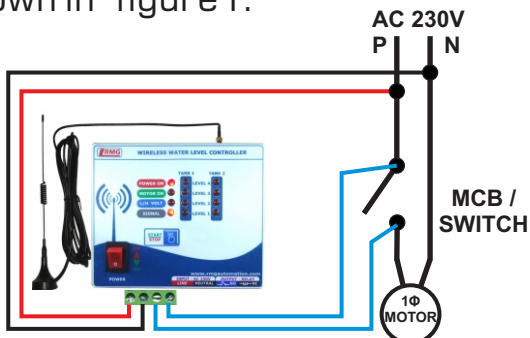
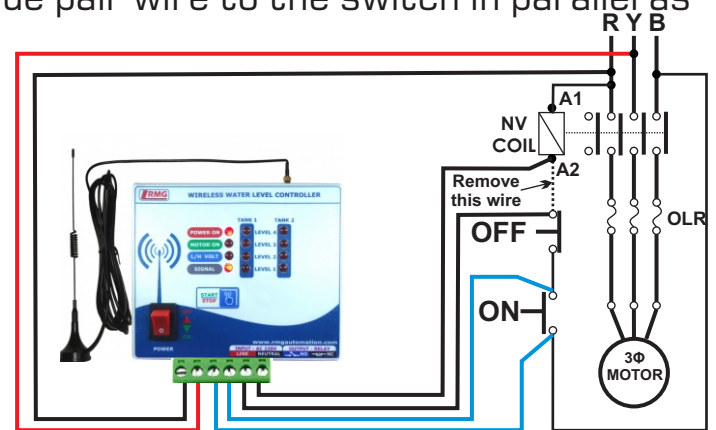
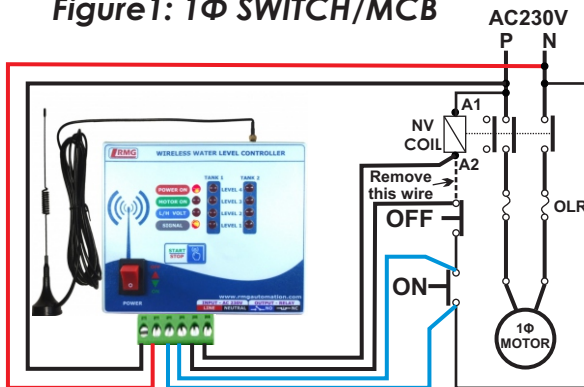

Figure1: 1Φ SWITCH/MCB
Figure2: 3Φ Starter
Figure3: 1Φ Starter
Step 2: As per the model purchased, check the label and connect AC supply (AC 230/440V) to 1st and 2nd terminal of the controller (Refer figure 1 or figure 2).
Step 3: For switch or MCB, connect the blue pair wire to the switch in parallel as shown in figure 1.
Step 4: For starter, connect blue pair wire to ON button in parallel and black pair wire to OFF button in series. (Refer to figure 2 & Figure 3). In case of other types of connections or doubt what's app to 9940594413 or call 044-43180017